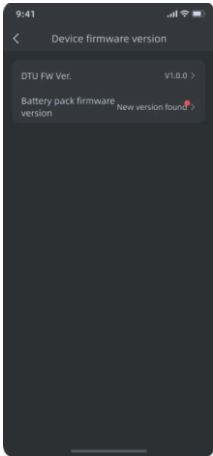

Figure 1
1)Figure 1: Check the current system firmware version and DTU firmware version of the device. When there is a new version, it will prompt "**New version found**" and can be upgraded.